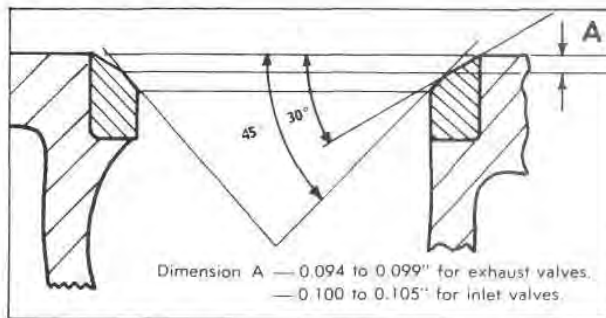

Fig B18 — Flare to be cut at 30°
4. Using the valve bore as a pilot, machine the "flare" to the dimensions in Fig. B18.
(a) Machine to the dimensions given in Fig. B18 and continue as in stages 5 and 6.